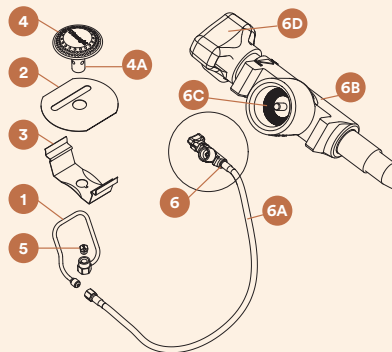
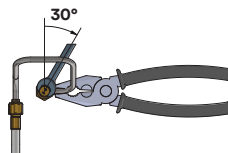
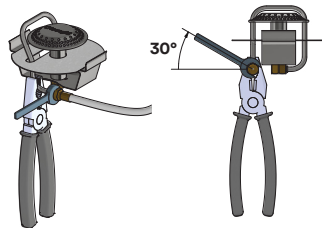

Figure 6 & Table 4. Components
Figure 7
Figure 8
- 2.7 Avoid twisting the flexible hose. Avoid blocking or obstructing the air inlet holes in the mixer tube (4A in figure 6).
- 3.4 Check that the seals (between the appliance and the gas cartridge) are in place and in good condition before connecting to the gas cartridge, see 6C in figure 6. Connect the gas cartridge outside and away from people and open fire.
- 5.1.2 **Do not** use the whole preheating tube (1 in figure 6) as a lever during service as this might damage the tube. Hold the end of the tube with pliers for better grip.
- 5.2.1 Check that the O-ring in the valve (6C in figure 6) is in good condition.
- Replace/tighten the hose to the preheating tube using a 10 mm open spanner. If the hose is loose, screw by hand to stop and additionally 30° (=3–4 Nm). Do not use the whole pre heating tube (1 in figure 6) as a lever as this might damage the tube. Hold the end of the tube with pliers, see figure 8.
- 5.4.3 Unscrew the burner top (4 in figure 6). Hold the mixer tube (4A in figure 6) with pliers for better grip. Do not damage the holes in the mixer tube. Never use the whole pre heating tube (1 in figure 6) as lever.
- 5.4.4 Unscrew the jet (5 in figure 6) from the valve using an 8 mm open spanner. Hold with pliers at the housing or at the end of the preheating tube close to the housing, see figure 7.
- 5.4.6 Refit the jet and screw it tightly. To ensure a gas seal, screw by hand to stop and additionally 30° (=3–4 Nm). Hold with pliers at the end of the preheating tube close to the housing, see figure 7.